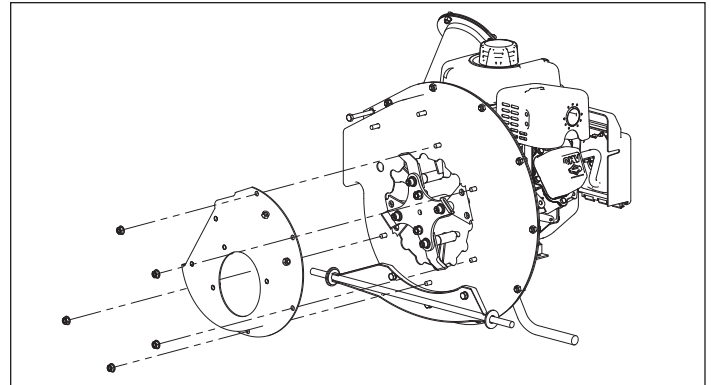

FIGURE 18 - Removing the Rotor Housing
4. Remove the rotor cover by removing the hardware that secures it to the main housing. **SEE FIGURE 18**
4. Remove the rotor housing by removing the hardware that secures it to the main housing. **SEE FIGURE 18**